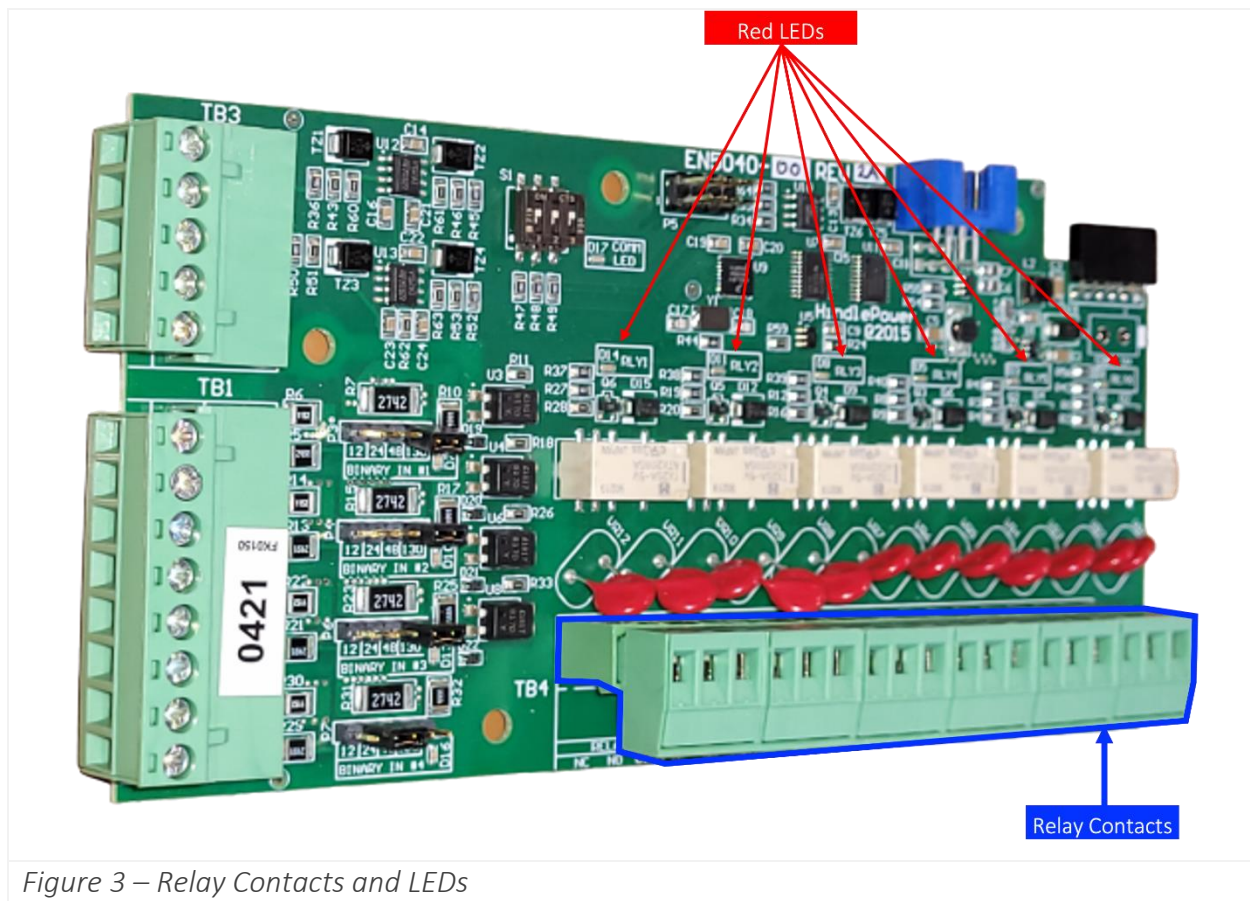

Figure 3 – Relay Contacts and LEDs
The Auxiliary I/O Board (A4) contains six (6) configurable one (1) form-C relays as shown in Figure 3. Relay contacts are rated for 0.5A @ 125 Vac/Vdc.